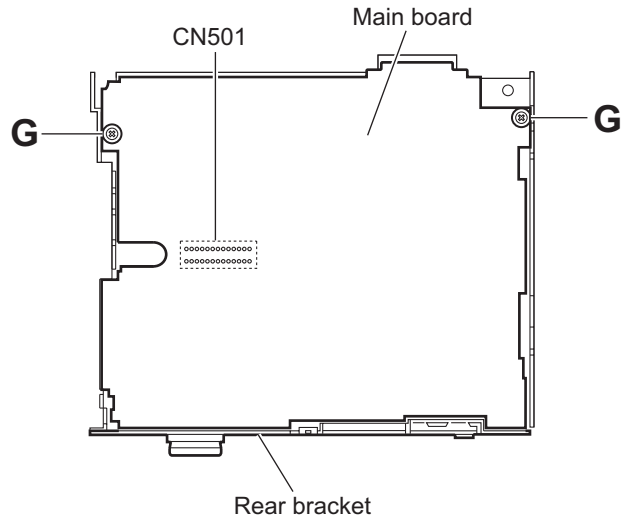

Fig.6
- Remove the two screws **G** attaching the main board. (See Fig.6.)
- Disconnect the connector CN501 on the main board from the main body and take out the main board with the rear bracket. (See Fig.6.)